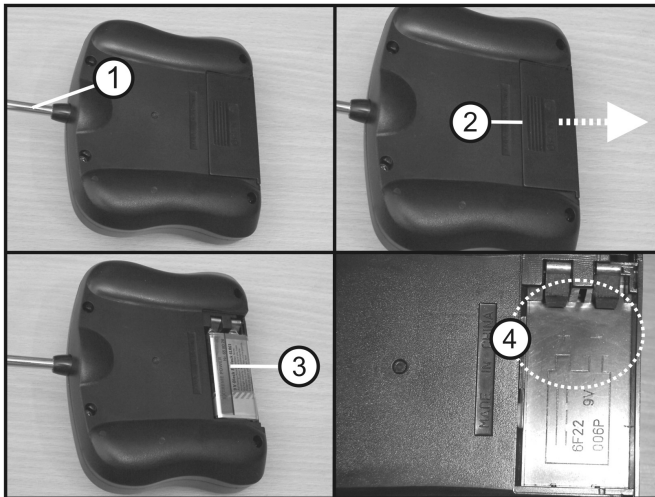

Figure 4
Push the transmitter aerial (see figure 4, item 1) into the transmitter and screw it on carefully. Do not use any tools for this!